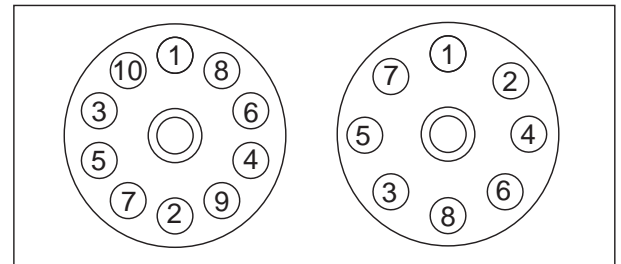

Figure 1: Nut Tightening Sequence for Hub Piloted Disc Wheels
2. The wheel nuts should be installed and snugged to about 50 ft- lbs in the sequence shown in Figure 1. The crisscross sequencing allows the drum to properly seat itself if not fully seated prior to installing the wheels. After all of the nuts are installed, tighten the nuts to the recommended torque shown in Table 1 using the same crisscross sequence. If the wheel nuts are fully torqued without the 50 ft-lb step, the drum can cock and remain misaligned during the remaining nut torquing.